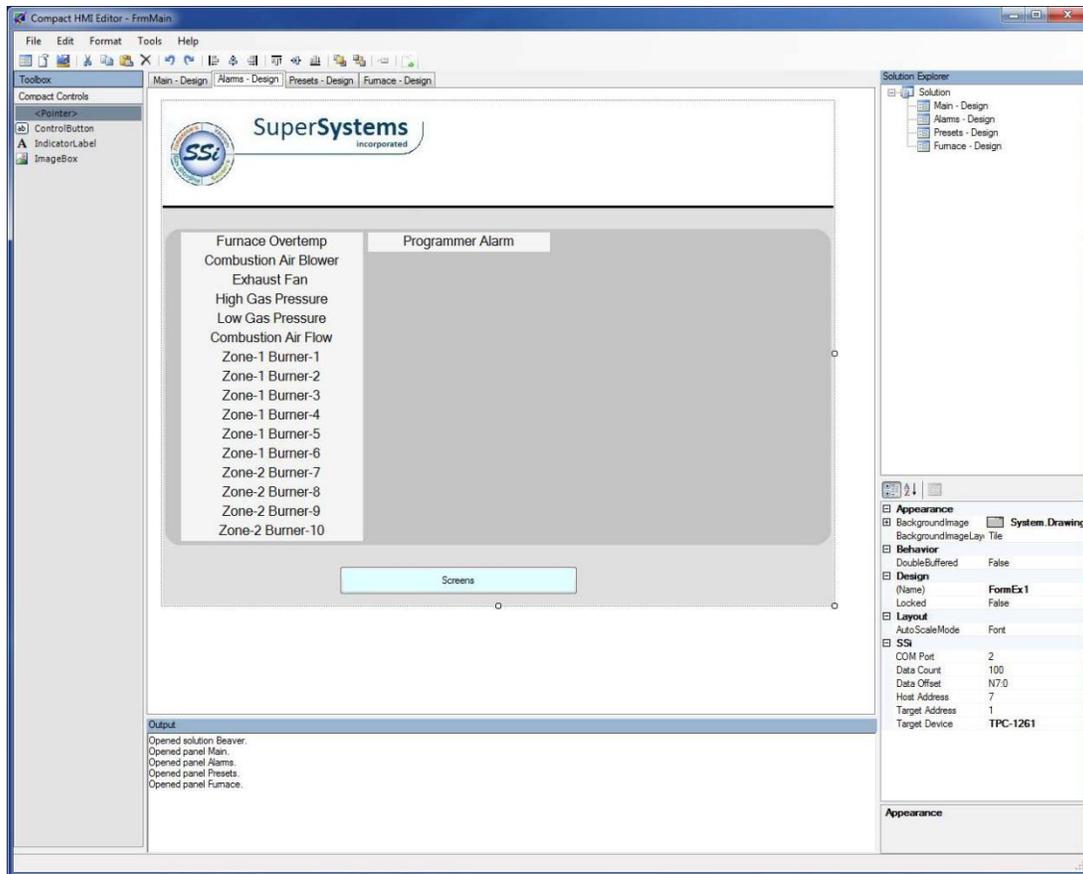
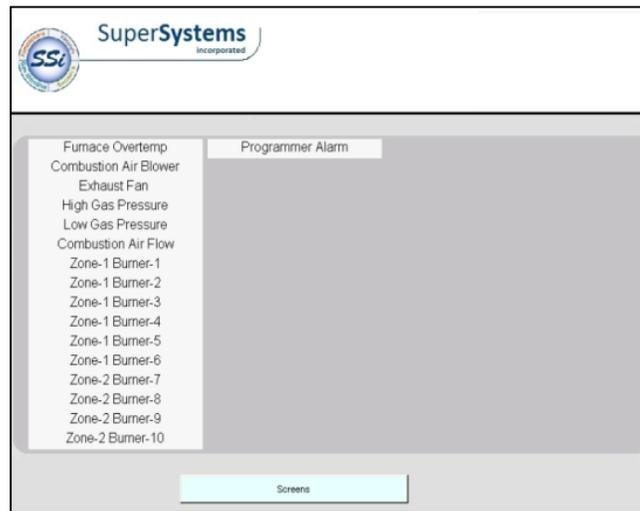

Figure 50 - Alarms Panel (Compact HMI Editor)
Figure 51 - Alarms Panel (Compact HMI - Touch Screen)
- **Alarms Panel.** The Alarms Panel shows alarms that have been configured in the system. If an alarm is active, typically the attributes of the alarm display will be programmed to change (for example, color and visibility). In the example, inactive alarms are displayed in black text. If an alarm is active, the operator will be able to acknowledge it or take the appropriate action to correct the alarm condition. The Compact HMI Editor view for the Alarms Panel is shown in Figure 50; the Compact HMI (Touch Screen) view is shown in Figure 51.